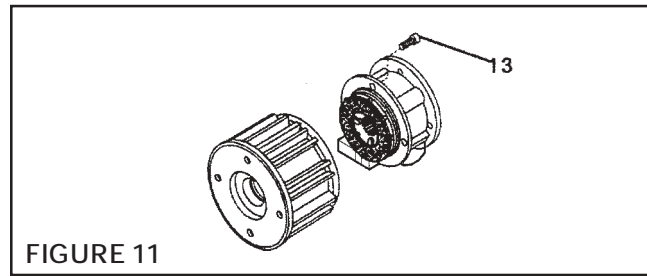

FIGURE 11
1. Remove the four Socket Head Cap Screws (Item 13) and separate the two halves of the FMCBE (See Figure 11).